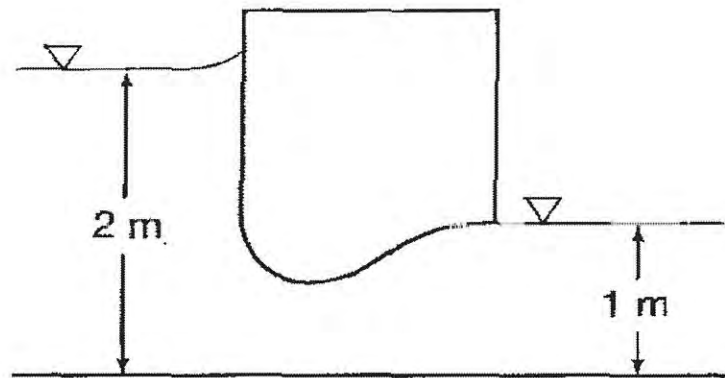

FIGURE Q5 (d)
- (d) **Figure Q5 (d)** shows the water passage with 3 m wide normal to the plane of the structure. Calculate and provide the direction of the horizontal force acting on the structure. (9 marks)